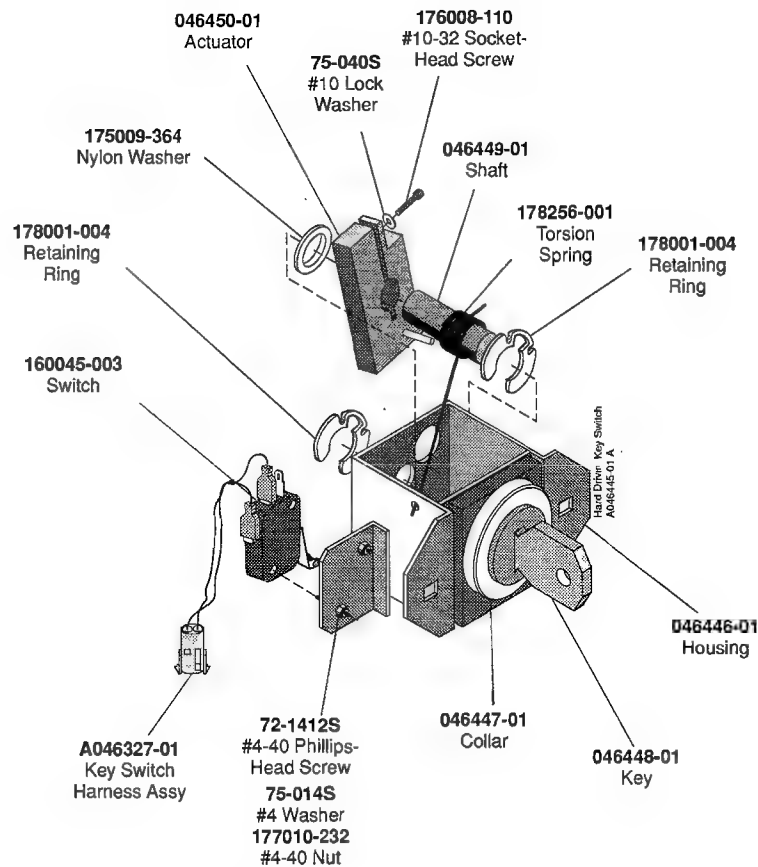

Figure 3-6 Maintaining the Key Switch Assembly
2. Lightly oil the bezel, shaft, and spring of the key switch. See Figure 3-6. Check to make sure the spring is not broken. If it is, then replace the spring following the procedure under Repairing the Key Switch.
The key switch assembly is shown in Figure 3-6.